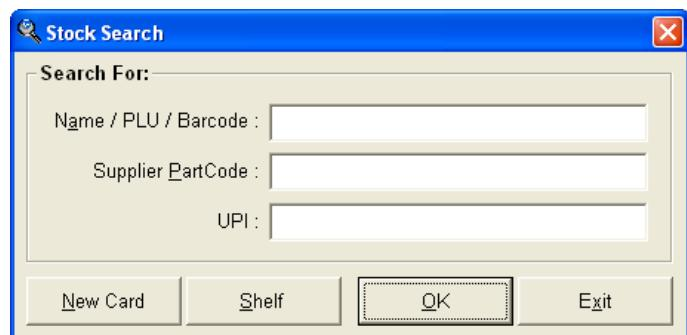

Figure 129
2. The 'Stock Search' window will display (as shown in Figure 129)